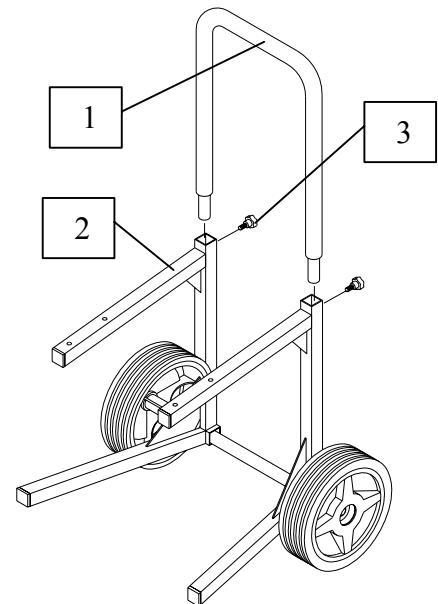

Fig.17
- 6 Insert the handgrip 1 onto the lower frame 2 and block at the height desired using the relative screws 3 (Fig.17).